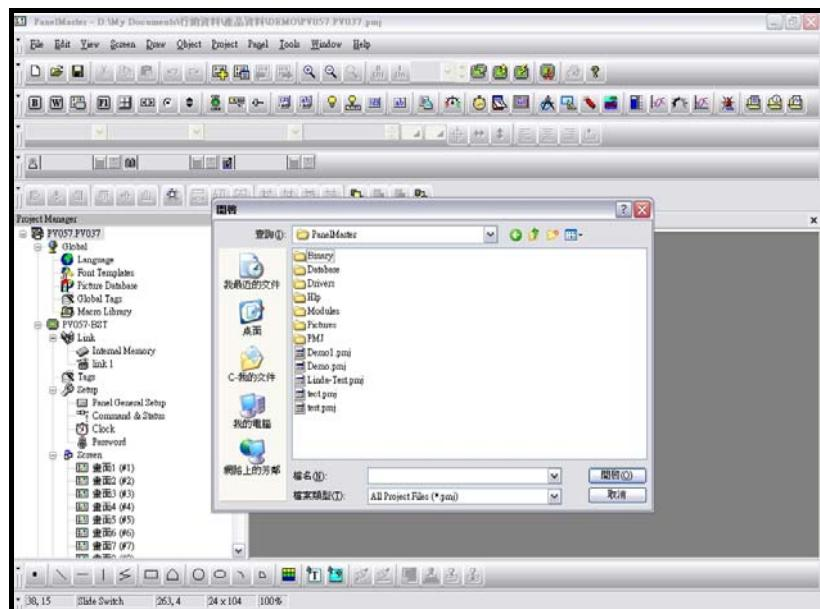

Figure 2-92 Step 1 New a project_create a project name and directory
Step1 : Click 【File--New】 To open a new project , see figure 2-92 shown as below.